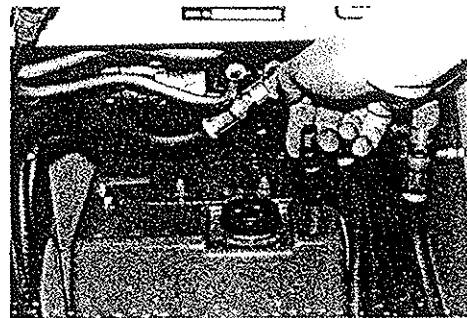

FIGURE 21
2. Remove dipstick on the right hand side of the engine, **Figure 21**, visibly check the level. Top up with recommended oil; see the chart above if required.